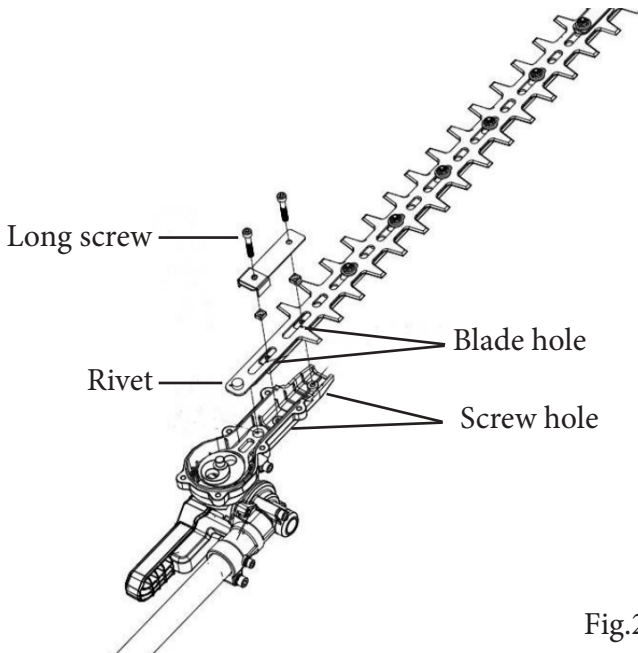

Fig.25B
- c) Keep the holes in the blade, the gaskets, and the holes in the pressing plate, wool felt in line with the screw holes in the gear case. Install the 2 long screws into the aligned holes and tighten them securely (Fig.25B).